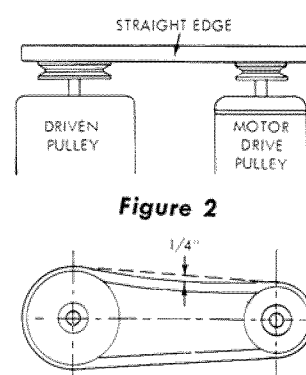

Figure 2
5. Make sure all pulleys are tightened securely on their shafts and correctly aligned. Proper pulley alignment may be obtained by holding a straight edge across the flat sides of the pulleys and adjusting to it. (See figure 2.)